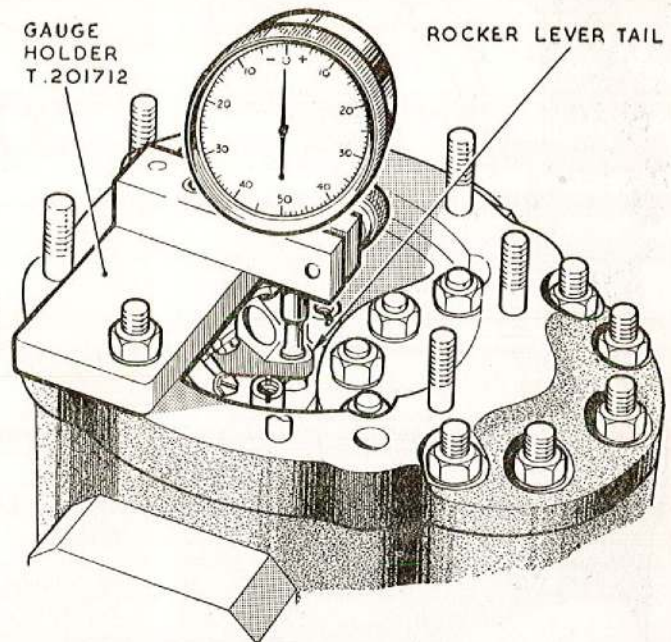

Fig. 5. Checking the rocker lever tail lift
- (1) Place the holder T.201712 in position on the pump housing and secure with a washer and nut on two opposite studs.
- (2) Set up the dial test indicator and check the lever tail lift as shown in fig. 5.
- (3) Record the dimension.